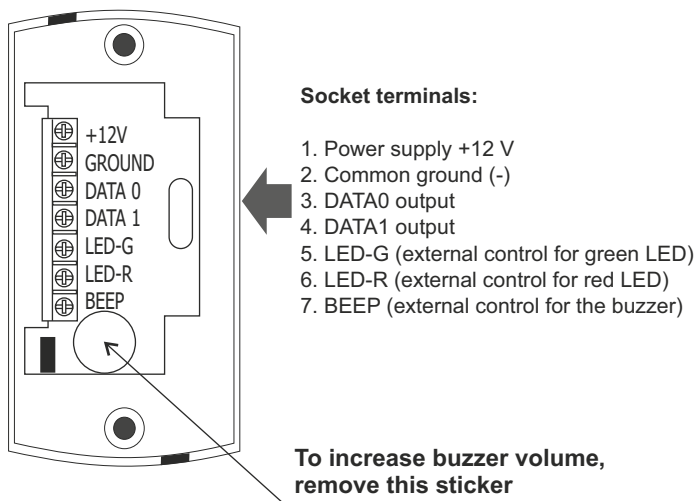

Figure. 4
- Connect wires to the reader socket, according to layouts on Fig. 4 and 5.